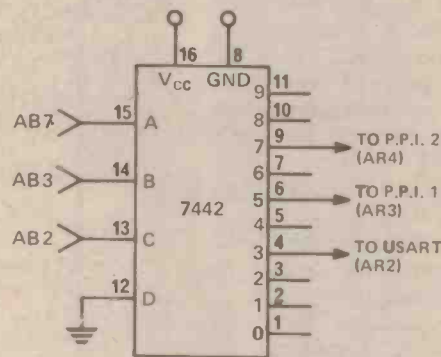

Fig. 7. Decoder circuit used to decode PPI and USART device codes which do not conflict with those of the educational interface.
Fig. 8. Erroneously reproduced in the lower half of Figure 6 last month, this drawing shows the SDK-80 PPI and USART device code format which results from incorporating the decoder circuit of Figure 7. Both the PPI/I/O port select bits (0 and 1) and the USART data/control select bit (0) remain the same as in the upper drawing of Figure 6.
altered and/or uniquely decoded so that they do not conflict with the educational interface device codes. As a further constraint, the USART device codes (3728 and 3738) must be retained since the SDK-80 monitor might be required. For convenience and economy, I thought it desirable to use on-board SDK-80 components such as the RAM or ROM 3 to 8 line decoders, or possibly spare on-board inverters to uniquely decode the USART codes and some convenient PPI device codes. Unfortunately none of these possibilities is in any way suitable and so a decoder circuit (shown in Figure 7) must be wired on the SDK-80 general purpose kluge area. Wiring details are given in Fig. 2. Note that the chip enable lines (CS) to the two PPI's and the USART must be broken at the three points indicated by crosses in Figure 2. Address bit A7 was used in the decoding to ensure that PPI/USART device codes are above 2008, leaving codes below this for the educational interface. Figure 8 shows the resulting combined PPI and USART device code format.